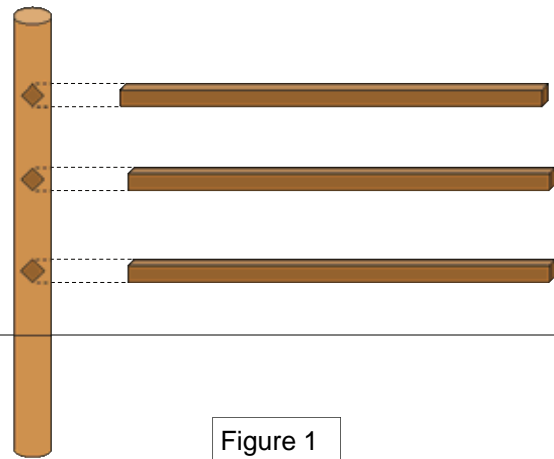

Figure 1
- The first set of rails can now be placed into the mortises (see fig. 1). For extra stability, secure the first set of rails with nails; you can also saw off any bits that stick out the other side of the holes for neatness.